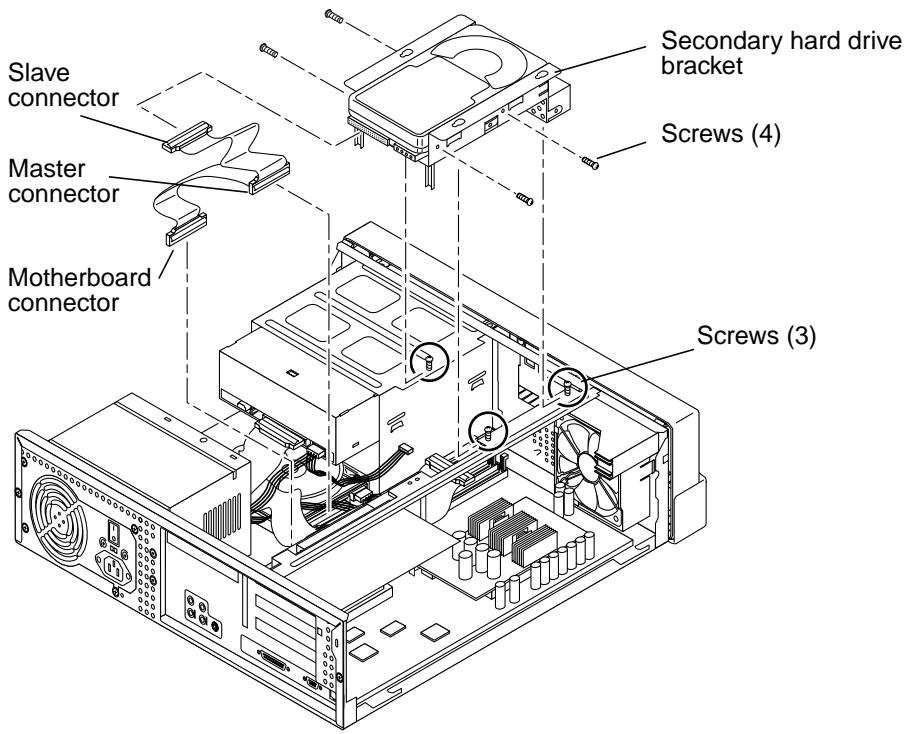

FIGURE 7-6 Installing a Secondary Hard Drive
- 3. Loosen, but do not remove the three screws that hold the diskette drive bracket to the chassis (FIGURE 7-6).**